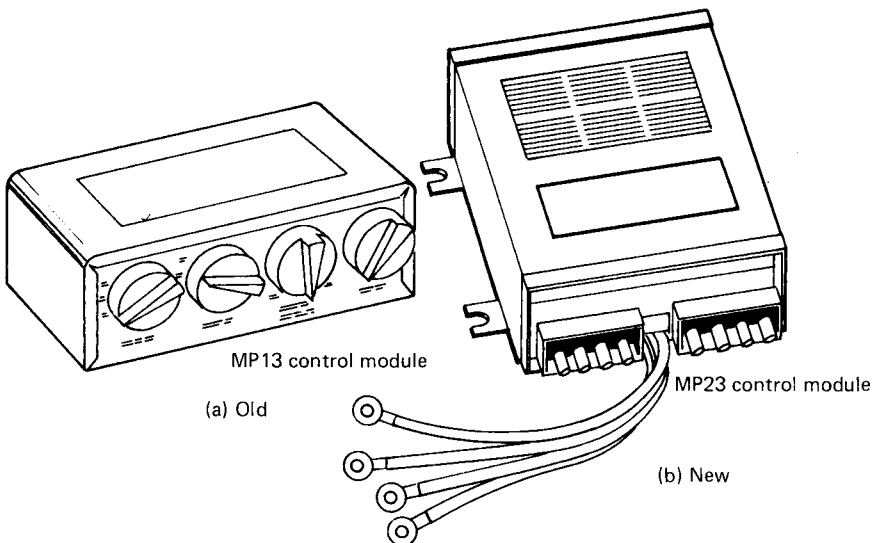

Figure 19-32 Solid-state control modules: (a) older unit and (b) newer unit. (Courtesy of Robertshaw.)
2. The control module is a sealed enclosure containing a transformer and a switch. Figure 19-32 shows two models.